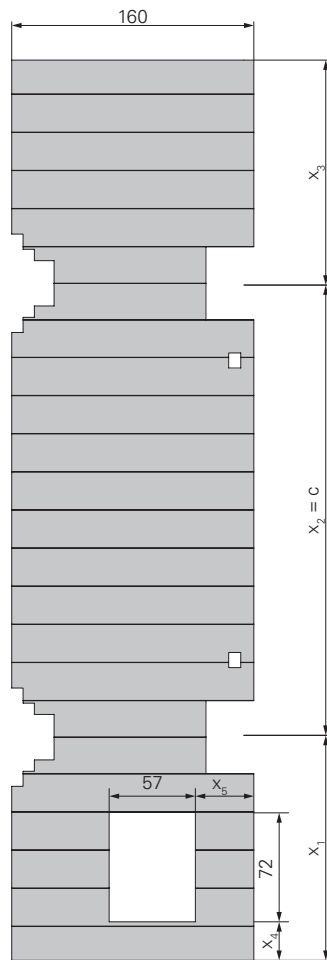

Fig. B4.07
- 10. Saw recesses in the platform decking for the work platform (level 0). (Fig. B4.07 – B4.10).